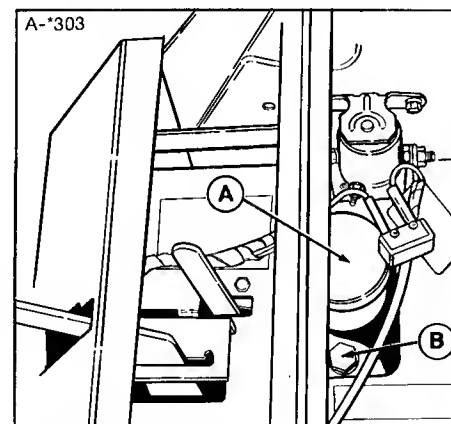

Figure 20. Hydrostatic Reservoir
3. The fluid level is visible in the reservoir (figure 20) without removing cap. The level should be at COLD level mark. If not, go to step 4.
4. Remove the reservoir cap. Add oil. Ask your dealer or refer to the Common Replacement Parts section of this manual for recommended fluid. Remove inspection plug (B, figure 20) when adding oil to reservoir. If the oil is black or milky, see your dealer to determine cause.